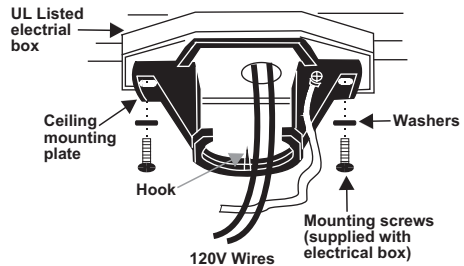

Figure 5
Step 1. Pass the 120-volt supply wires through the center hole in the ceiling hanger bracket as shown in Fig. 5.
2. Pass the 120-volt supply wires through the center hole in the ceiling hanger bracket as shown in Fig. 5.
3. Secure the hanger bracket to the ceiling outlet box with the screws and washers provided with your outlet box. (Fig. 5)